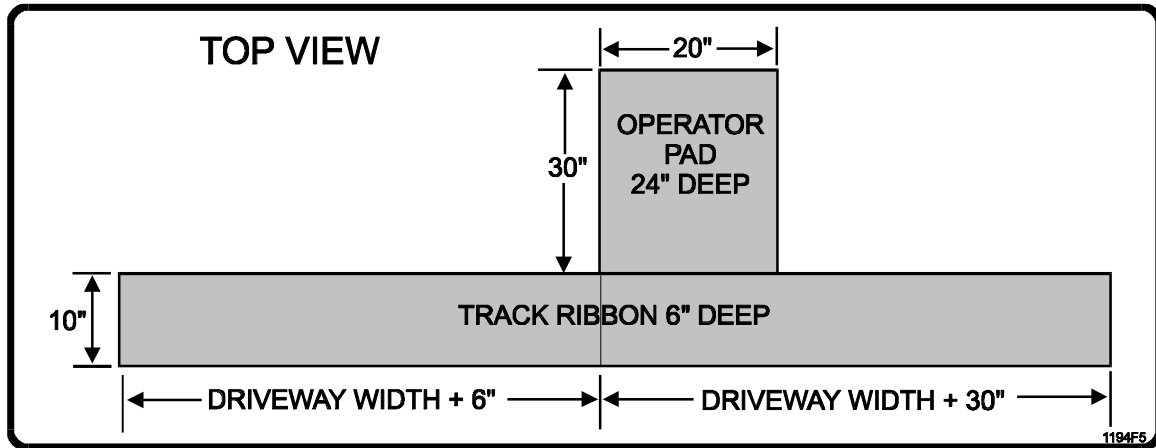

Figure 4. Pad and Track Ribbon
1. The concrete pad must be sufficient to support the gate operator and the forces created by the moving gate. LiftMaster recommends a pad 20" wide by 30" long by 24" deep (Figure 4).